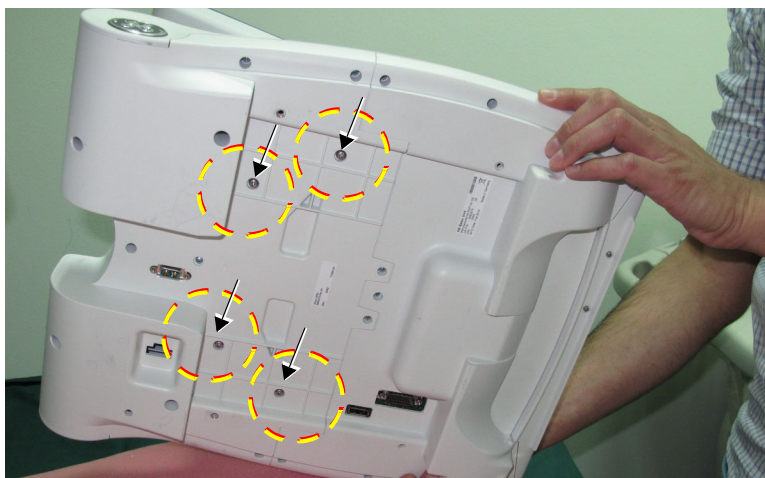

Figure 8-88 Four Screws Securing the Touch Screen Chassis
- 5.) From the bottom of the keyboard assembly, unscrew the four screws shown in Figure 8-88.